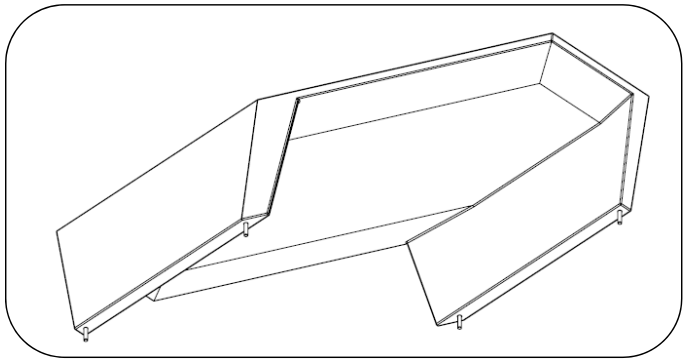

Fig. 1
2. Install four threaded rods, see Fig 1.